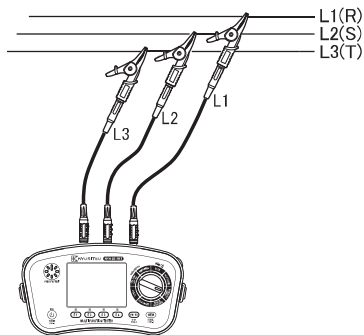
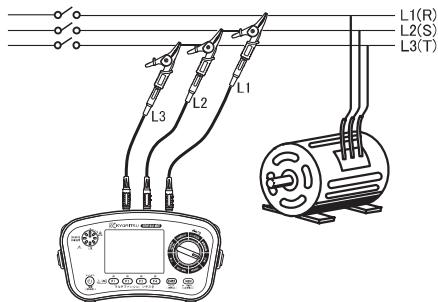

Fig. 12-3 Phase rotation check
Fig. 12-4 Motor rotation check
(4) Connect the test leads to the circuit under test. (Fig. 12-3, Fig. 12-4)